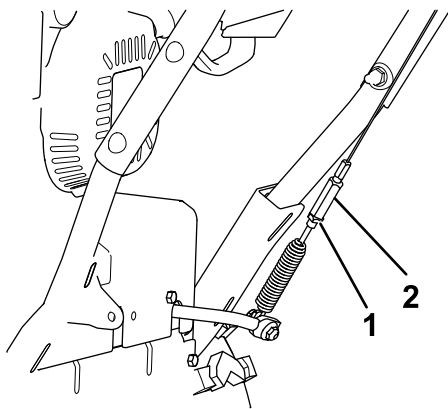

Figure 29
- B. Loosen or tighten the turnbuckle that adjusts the tension on the cable (Figure 29).